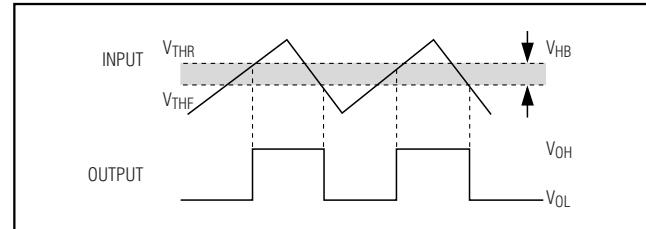
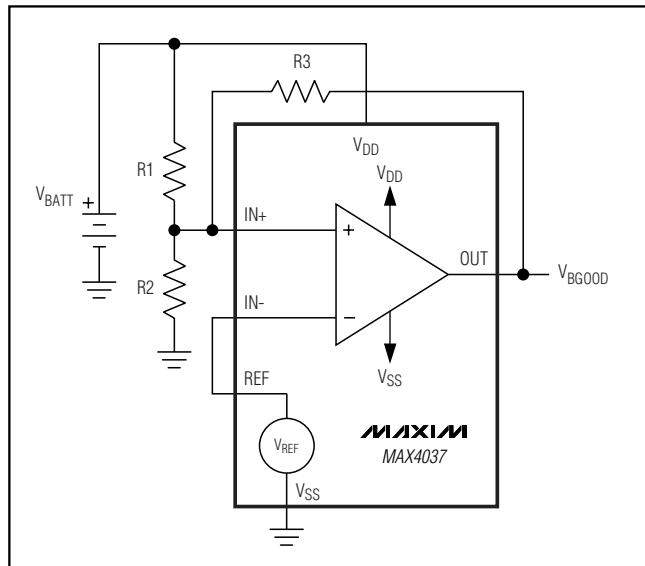

Figure 3. Hysteresis
Figure 4. Battery Monitoring
Although optimized for use as an operational amplifier, the MAX4036–MAX4039 can be used as a rail-to-rail I/O comparator (Figures 3, 4). External hysteresis can be used to minimize the risk of output oscillation. The positive feedback circuit, shown in Figure 4, causes the input threshold to change when the output voltage changes state.
The internal reference and low operating voltage of the MAX4037/MAX4039 make the devices ideal for battery-monitoring applications. Hysteresis can be set using resistors as shown in Figure 4, and the following design procedure:
- 2) Choose the hysteresis voltage (V_{HB}), the voltage between the upper and lower thresholds. In this example, choose V_{HB} = 50mV (see Figure 3).